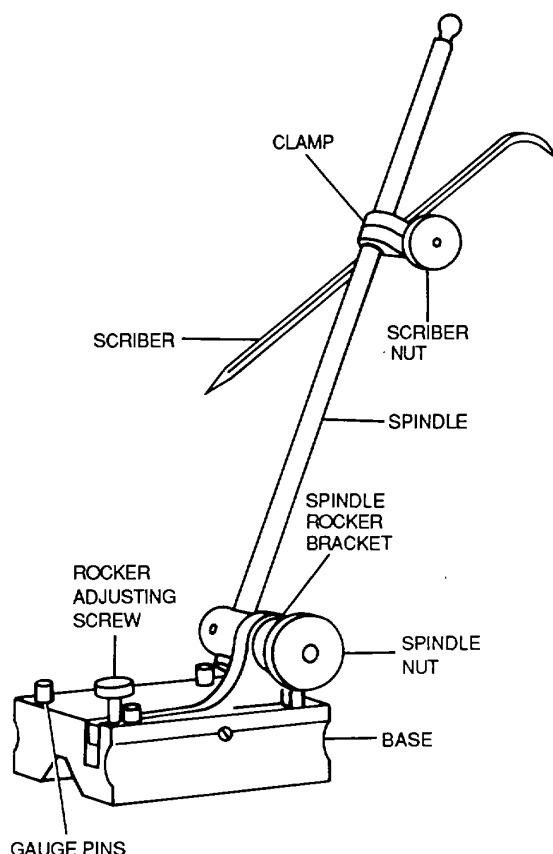

Figure 3-45. Surface Gauge
a. Description. As shown in figure 3-45, the surface gauge consists of a base with an adjustable spindle to which may be clamped a scriber or an indicator. Surface gauges are made in several sizes and are classified by the length of the spindle. The smallest spindle is 4 inches long, the average 9 to 12 inches, and the largest 18 inches. The scriber is fastened to the spindle with a clamp. The bottom and the front end of the base of the surface gauge have deep V-grooves. The grooves allow the gauge to measure from a cylindrical surface. The base has two gauge pins. They are used against the edge of a surface plate or slot to prevent movement or slippage.